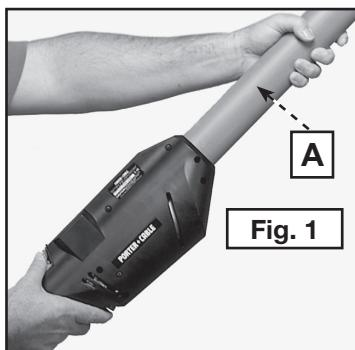

Fig. 1
Hold the sander with both hands on the main tube (A) Fig. 1. Position your hands anywhere along the main tube to provide the best combination of reach and leverage.
▲CAUTION: To reduce the risk of personal injury, keep your hands on the main tube (A) Fig. 1. Keep away from the sanding head area. The sanding head swivels in multiple directions and can pinch your hand.